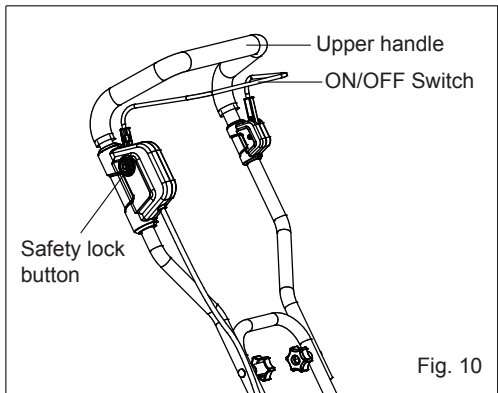

Fig. 10
2. To turn the tool ON, press and hold the safety lock button while squeezing the ON/OFF switch. Once the tool is running, release the safety lock button (Fig. 10).
3. To switch OFF, release the ON/OFF switch (Fig. 10).